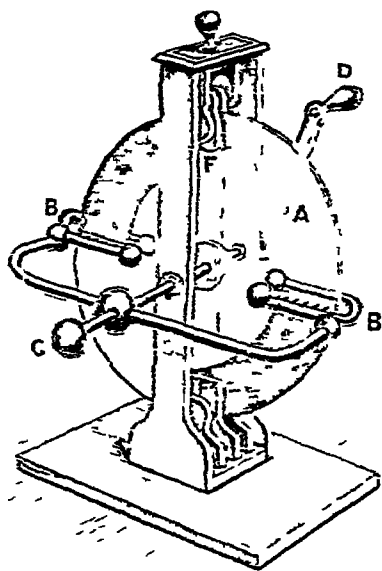

FIG 190
**The plate electrical machine**—The action of the plate machine is the same as that of the cylinder machine. a glass or ebonite plate, A (fig 190) takes the place of the cylinder, there are generally two rubbers and two sets of collecting points, B, each connected with the prime conductor, that consists of the curved brass rods and the knob C.